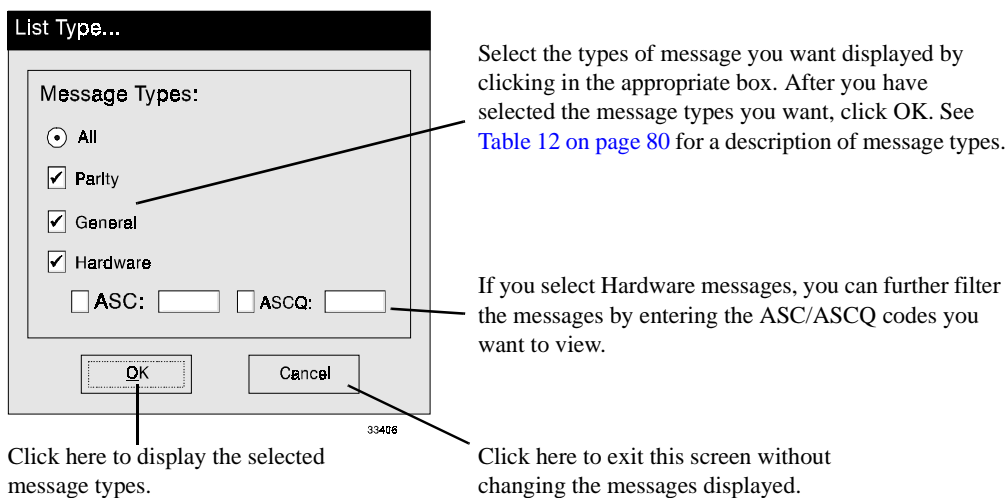

Figure 39. Selecting Message Type
5. If desired, click on List Type to filter the types of messages displayed (Figure 39).
- Click here to specify the types of messages you want to display (see Figure 39 on page 81).